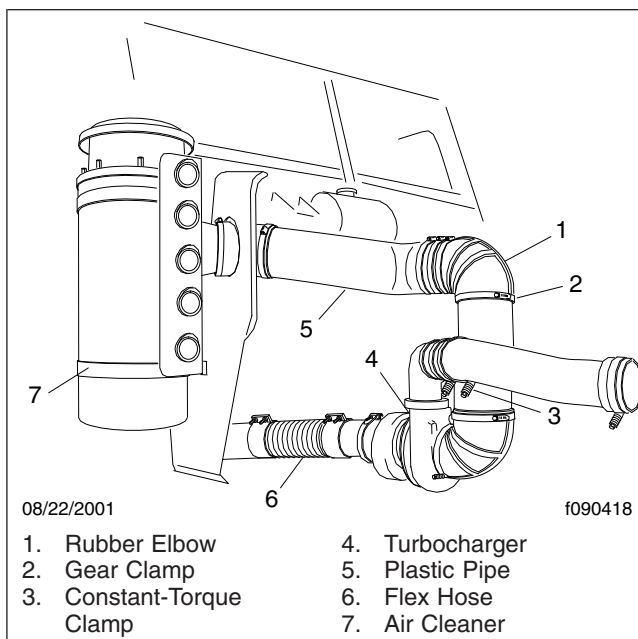

Fig. 3, Air Intake, Cowl-Mounted Air Cleaner
1. Check the connections between the plastic or aluminum piping and the rubber elbows. See Fig. 3.